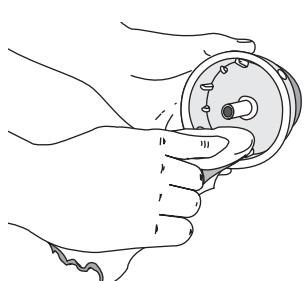

Fig. 24
4. Use a clean cloth to clean the inner reel, spring, shaft and inner surface of the outer spool (Fig. 24).